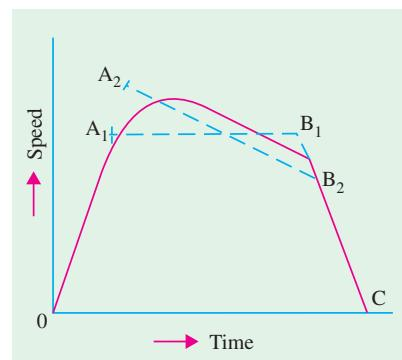

Fig. 43.10
**(i)** trapezoidal shape  $OA_1B_1C$  of Fig. 43.10 where speed-curve running and coasting periods of the actual speed/time curve have been replaced by a constant-speed period.